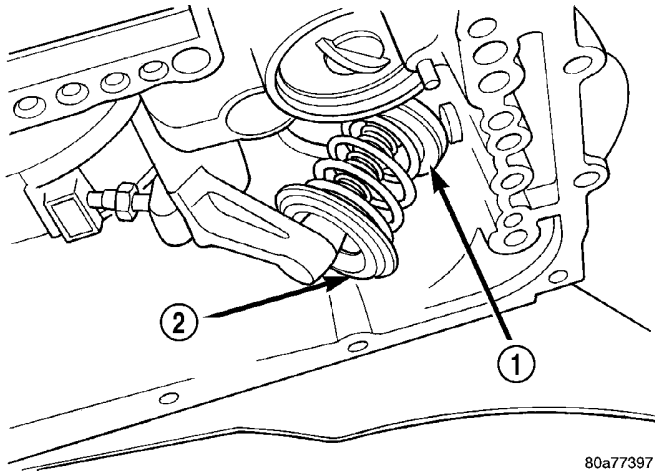

Fig. 72 Install Retainer, Spring and Servo
(32) Install low/reverse servo piston, spring, and retainer (Fig. 72).